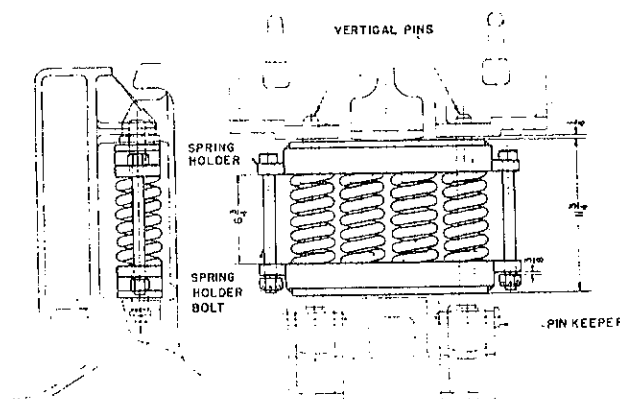

Fig. 1 - TRACTION MOTOR NOSE SUPPORT
6. Remove all motor nose suspension spring nests as follows. See Fig. 1.